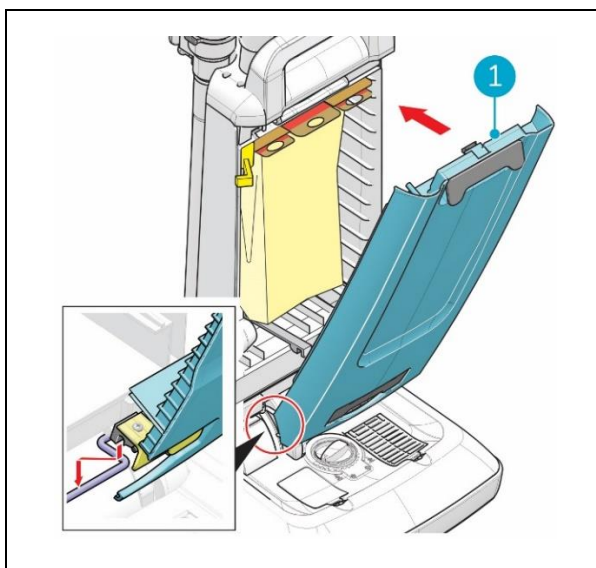

Figure 14
9. Put the front cover (Figure 14, pos 1) back into place and close it. When it clicks it is locked.